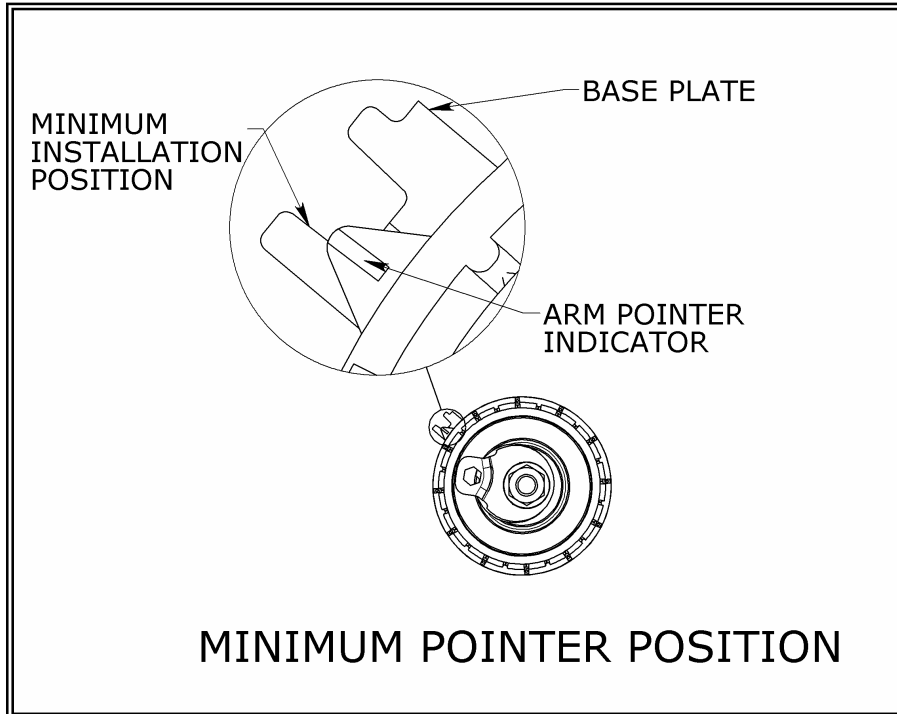

Figure 7: The Arm Pointer adjusted at the MINIMUM Installation Position.
If the Arm Pointer aligns between the **Maximum/Minimum Position Notch** (Figs. 7 and 8), the installation is complete.
14. Rotate the installation shaft **COUNTERCLOCKWISE** until the Arm Pointer moves **COUNTERCLOCKWISE** past the left edge of the base plate alignment notch, and then rotate the Installation Shaft **CLOCKWISE** with the Hex Key until the Arm Pointer moves clockwise to align between the **Maximum or Minimum Position Notch** (Figs 7 and 8).